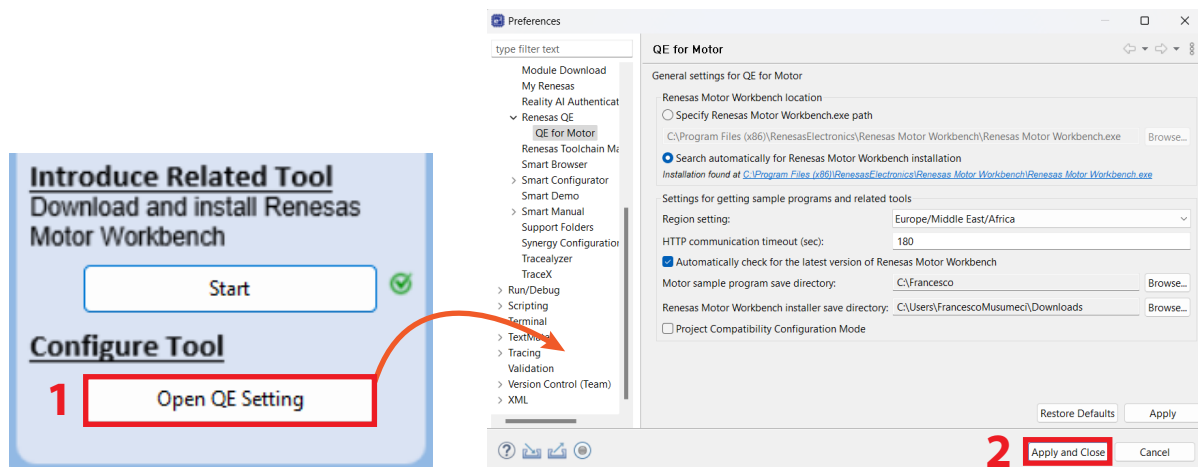

Figure 16: Motor Workbench configuration window
- 4) Click on **Open QE Setting**, in the **Configure Tool** section, and apply the default configuration (figure 16).